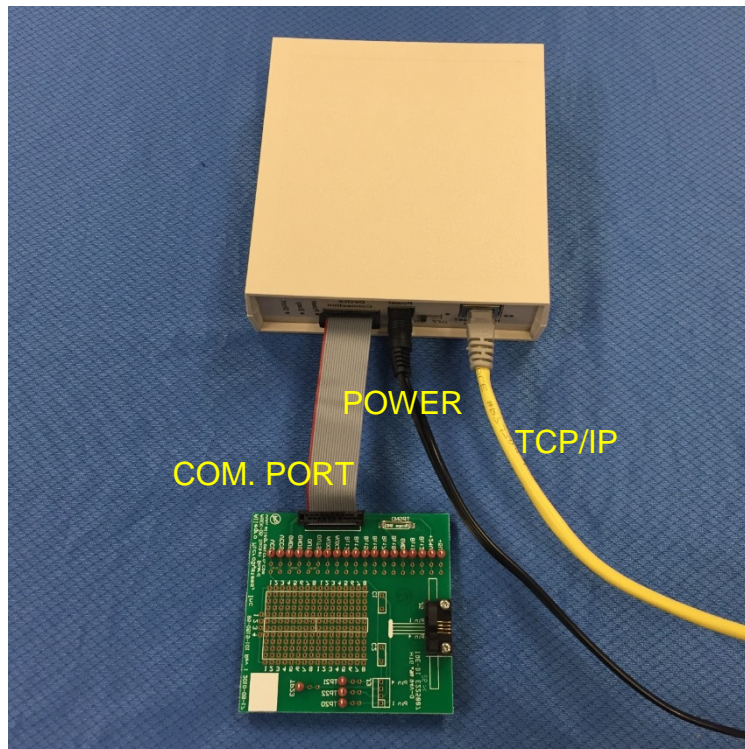

Figure 2
7. The whole setup is shown in Figure 2.